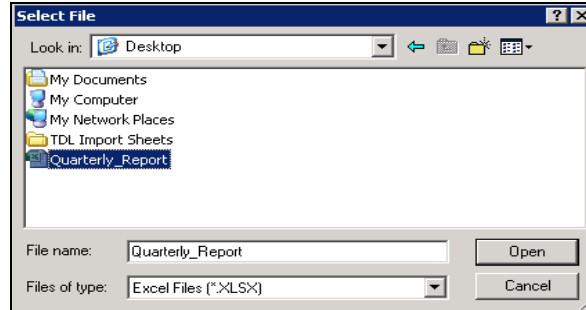

Figure 11-46: Select the spreadsheet file
3. After entering the data for a single project or multiple projects in the spreadsheet, select the Import button. Navigate to the location of the saved spreadsheet, highlight the spreadsheet file, and select open. You can also double click on the spreadsheet to open (Figure 11-46).